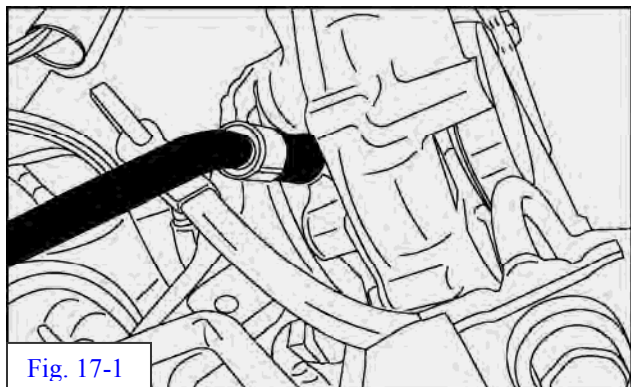

Fig. 17-1
- (a) Attach supercharger Oil Return Line between TRD oil pan and oil fitting on bottom of supercharger housing. (Fig. 17-1).